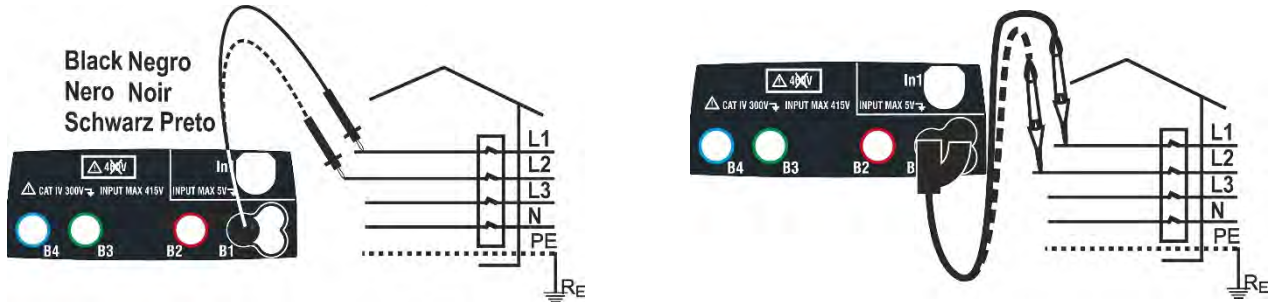

Fig. 24: Phase sequence check of 1T phases with terminal and remote lead
3. Insert the blue and black connectors of the single cables in the corresponding input terminals of the instrument B4, B1 (2T measurement). Insert in the free end of the cables the corresponding alligator clips or tips. It is also possible to use the remote lead by inserting its multipolar connector into the input lead B1. Connect the alligator clips, the tips or the remote lead to phase L1 and N according to Fig. 24 and Fig. 25.
Under these conditions, connect the alligator clips, the tips or the remote lead to phase L2 and N in accordance with Fig. 24 and Fig. 25.